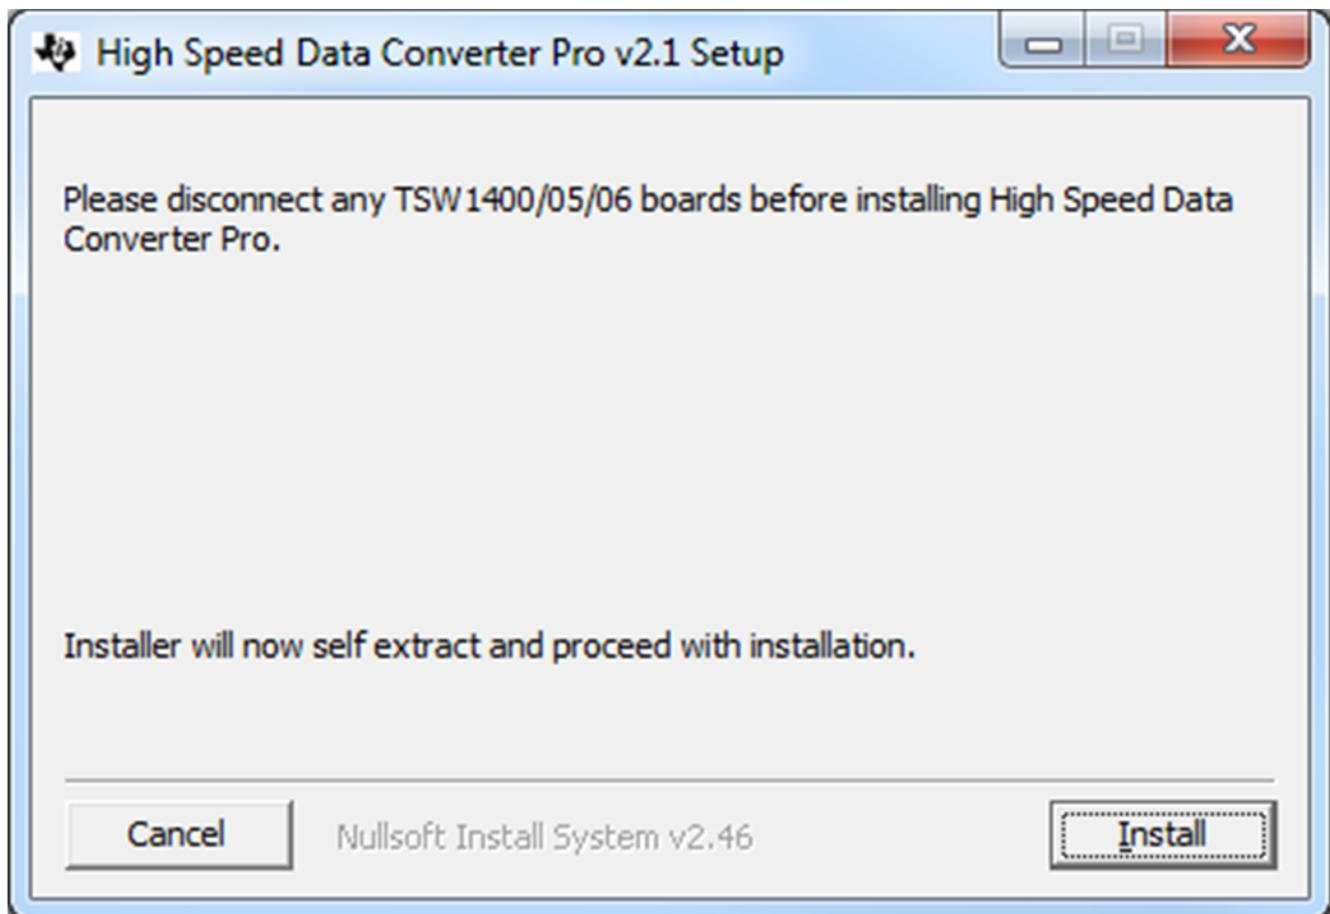

Figure 42. HSDCPro Install (Begin)
- Unzip the saved folder and run the installer executable to obtain the pop-up shown in Figure 42.